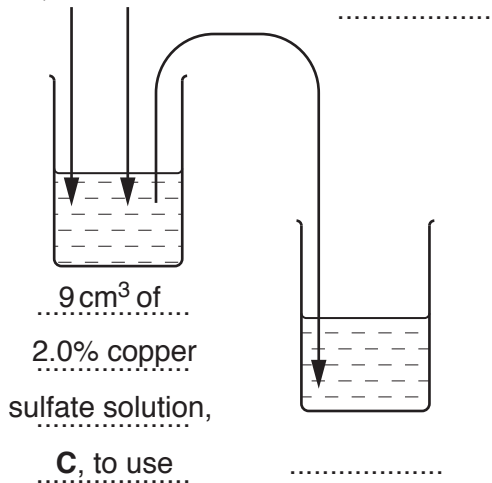

Fig. 1.1
Fig. 1.1 shows you the first two beakers you will use to make your serial dilution.
(ii) Complete Fig. 1.1 by drawing as many extra beakers as you need for your serial dilution.
1. Prepare the concentrations of copper sulfate solution as decided in (a)(ii) and shown in Fig. 1.1.